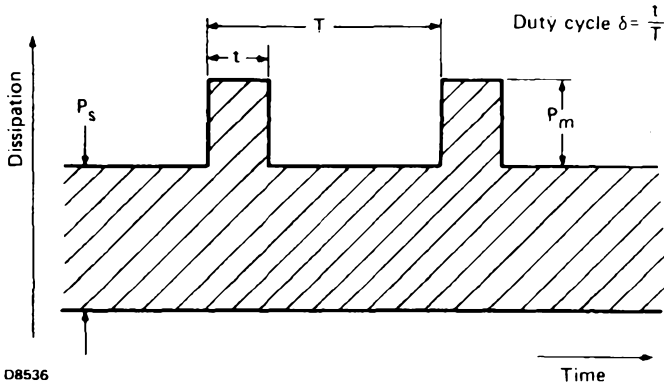

Fig.2
**b) Pulse conditions (see Fig.2)**